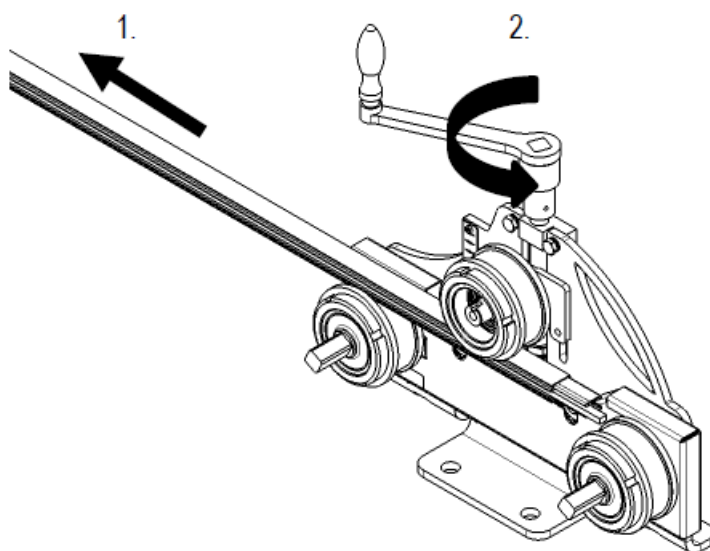

Fig. 15: 1. Pull out rail / 2. Position
- Pull out the conductor rail, make approx. 1 to 2 rotations and fix the upper roller with a star knob screw on the back of the bending device (see Fig. 15).